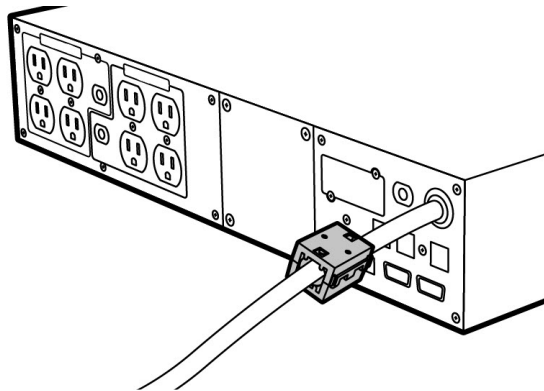

Figure 6-62. Ferrite installed on UPS power cord
1. Install the ferrite (Laird model 28A2029-0A2) on the AC power cord of the UPS two inches from the UPS (Figure 6-62).